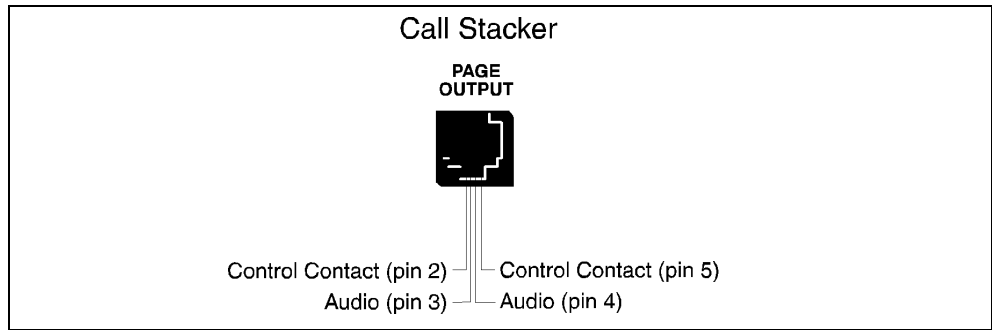
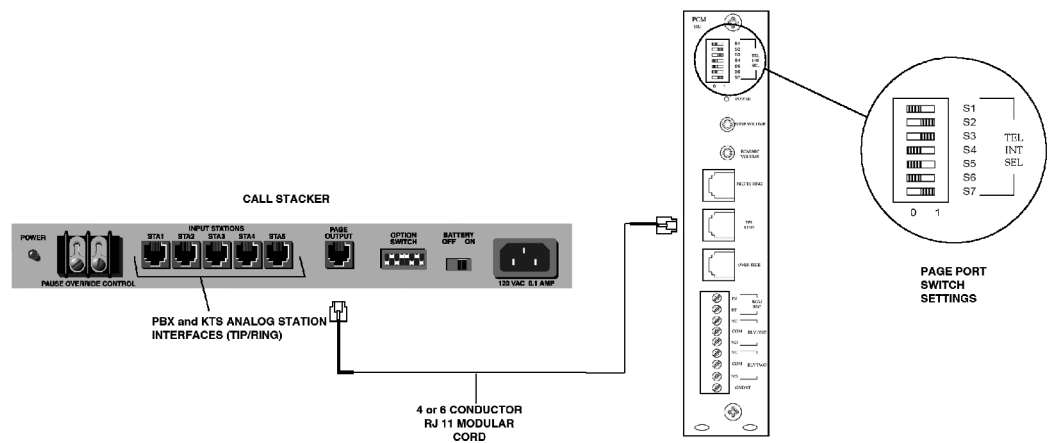

Figure 2-3. Page Output Channel Connection of Call Stacker
Figure 2-4. Connection to Lucent LUPCM Zone Paging System
- Connect the Call Stacker to the paging system (see Figure 2-4):
- Connect one or more of the Call Stacker's Input Station channels to PBX/KTS analog station inputs on the telephone system through FCC/DOC approved modular jacks. Connect the Call Stacker's Page Output channel to the paging system as shown in Figures 2-4 and 2-5 through an FCC/DOC approved modular jack. The control contact signal is used to secure and release the paging system controller (see figure 2-3).
Page Output Channel	Audio and control contact signals to the paging system as shown in figure 2-3. Between outgoing announcements the control contact opens for a minimum of 250 msec. to release the paging system controller.